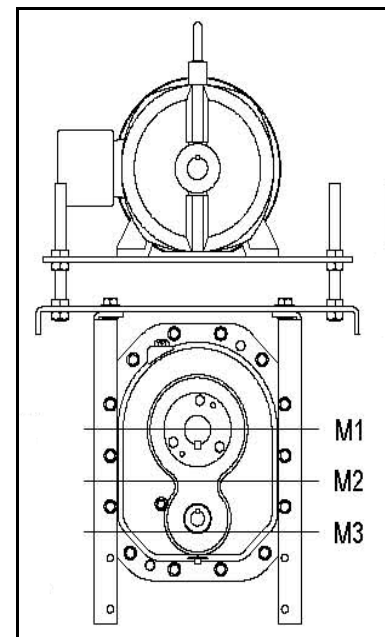

Figure 3.5
9. The motor mount may be installed in position and in any of the mounting levels (M1, M2, M3) shown in Figure 3.5.